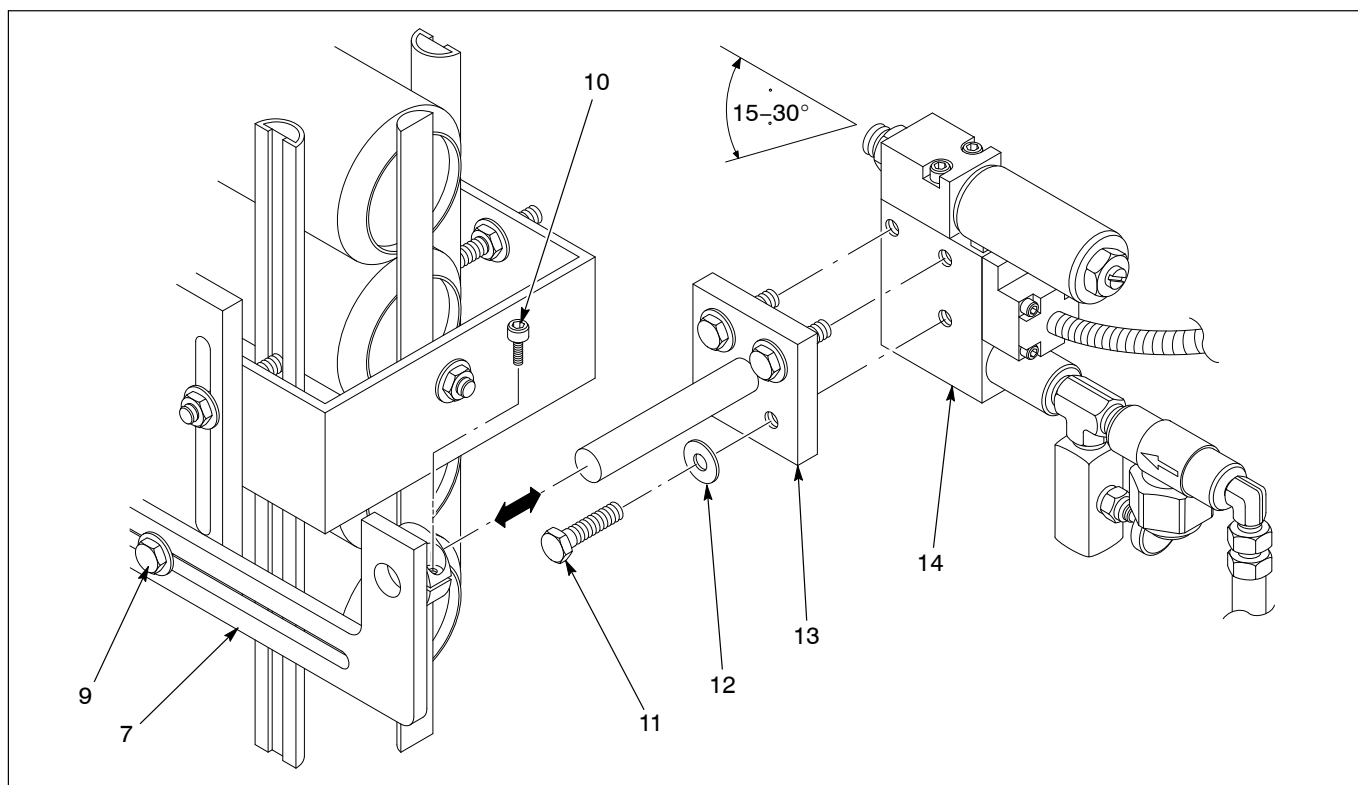

Figure 3 Gun Mounting
1. See Figure 3. Secure the gun (14) to the gun mount (13) with three screws (11) and washers (12).